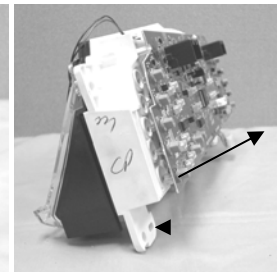

Figure 6
5. Separate the circuit board from the gauge assembly by pulling the board from the back of the white housing (See figure 6).
8. Re-install the original circuit board onto the new Simco Instrument Module by engaging the circuit board into the gauge pins and pressing on the back of the circuit board until it is fully seated to the back of the white housing (See previous figure 6).